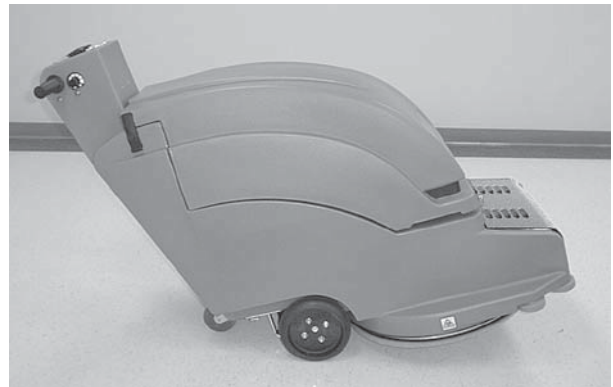

FIG. 5
- Turn off machine and tilt machine back on rear wheels (Figure 5).